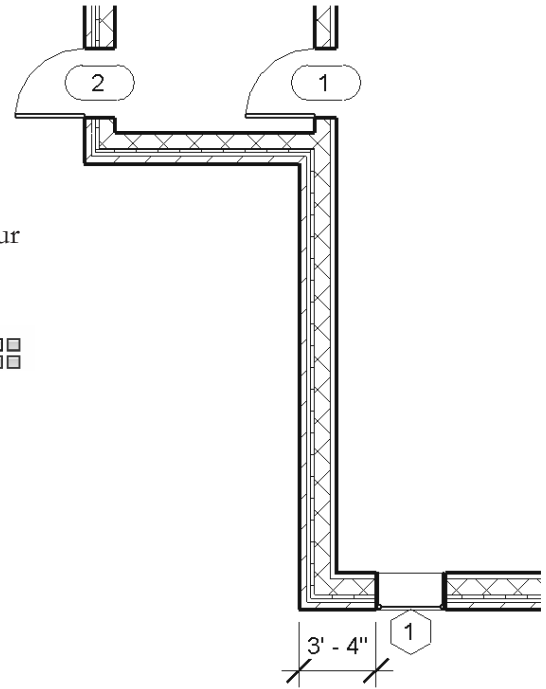

FIGURE 3-5.9 Exterior window
- 16. Insert the window as shown in **Figure 3-5.9**. The window should be inserted with masonry coursing in mind.